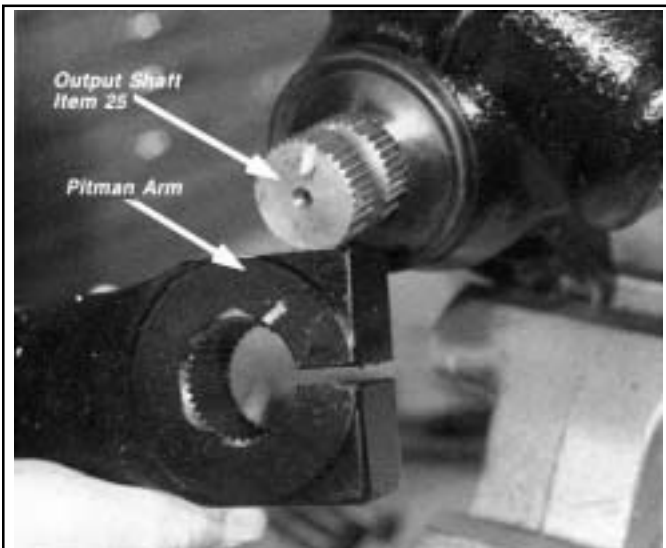

FIGURE 16 - REMOVING/INSTALLING PITMAN ARM & DUST BOOT
4. Scribe a line or otherwise mark the relationship of the pitman arm to the output shaft (25), then remove the pitman arm, then the dust boot (39). *Figure 16*